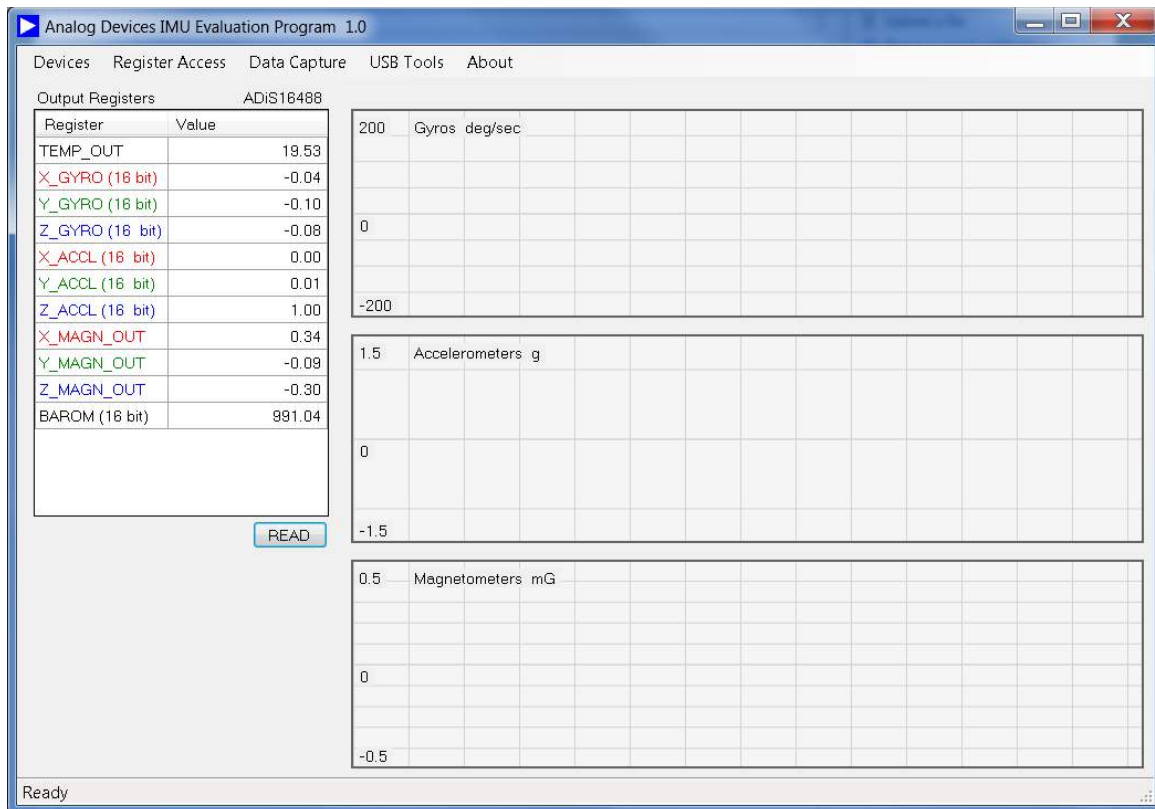

Figure 10. IMU Evaluation Software Main Window
4. Click **Select**. The program completes the connection and opens the main window (see Figure 10).
After the software completes the initialization process, the main window (see Figure 10) appears. The main window (see Figure 10) provides waveform recorders for basic demonstration, along with the following menu bar options: **Devices** (device selection), **Register Access**, **Data Capture**, **USB Tools**, and **About** (basic information).